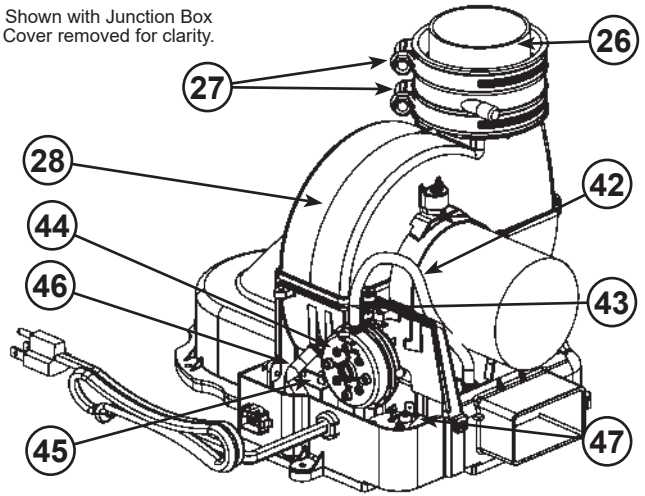

Figure 53.
- 26 ****Rubber Coupling (see Figure 5) (see also Figure 53)
- 27 Gear Clamp (see Figure 5) (see also Figure 53)
- 28 ***Blower with Power Cord (see Figure 5) (see also Figure 53)
- 42 Air Tubing (Intake) (see Figure 5) (see also Figure 53)
- 43 Blower High Limit Switch (see Figure 5) (see also Figure 53)
- 44 Intake Air Pressure Switch (NC) (inside box) (see Figure 5) (see also Figure 53)
- 45 Capacitor (see Figure 5) (see also Figure 53)
- 46 Air Tubing (Exhaust) (see Figure 5) (see also Figure 53)
- 47 Exhaust Air Pressure Switch (NO) (inside box) (see Figure 5) (see also Figure 53)